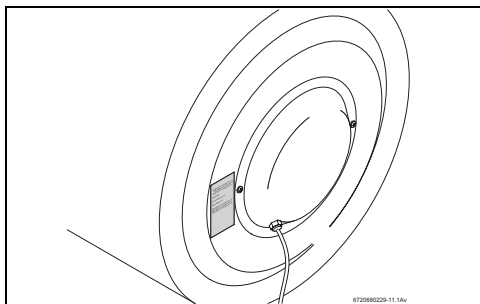

Fig. 12
- ▶ Glue on the rating plate of the heating element provided with the equipment (→ Fig. 12).